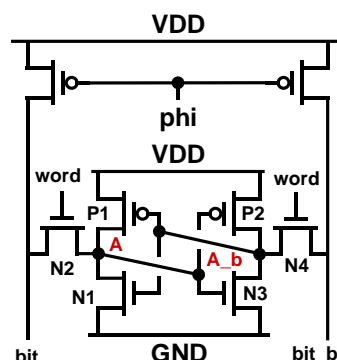

Fig. 1. 6T SRAM Cell
- (1) A 6T SRAM is shown in Fig. 1. Design the transistor widths for the SRAM to ensure proper functionality during both read and write operations. (20%)